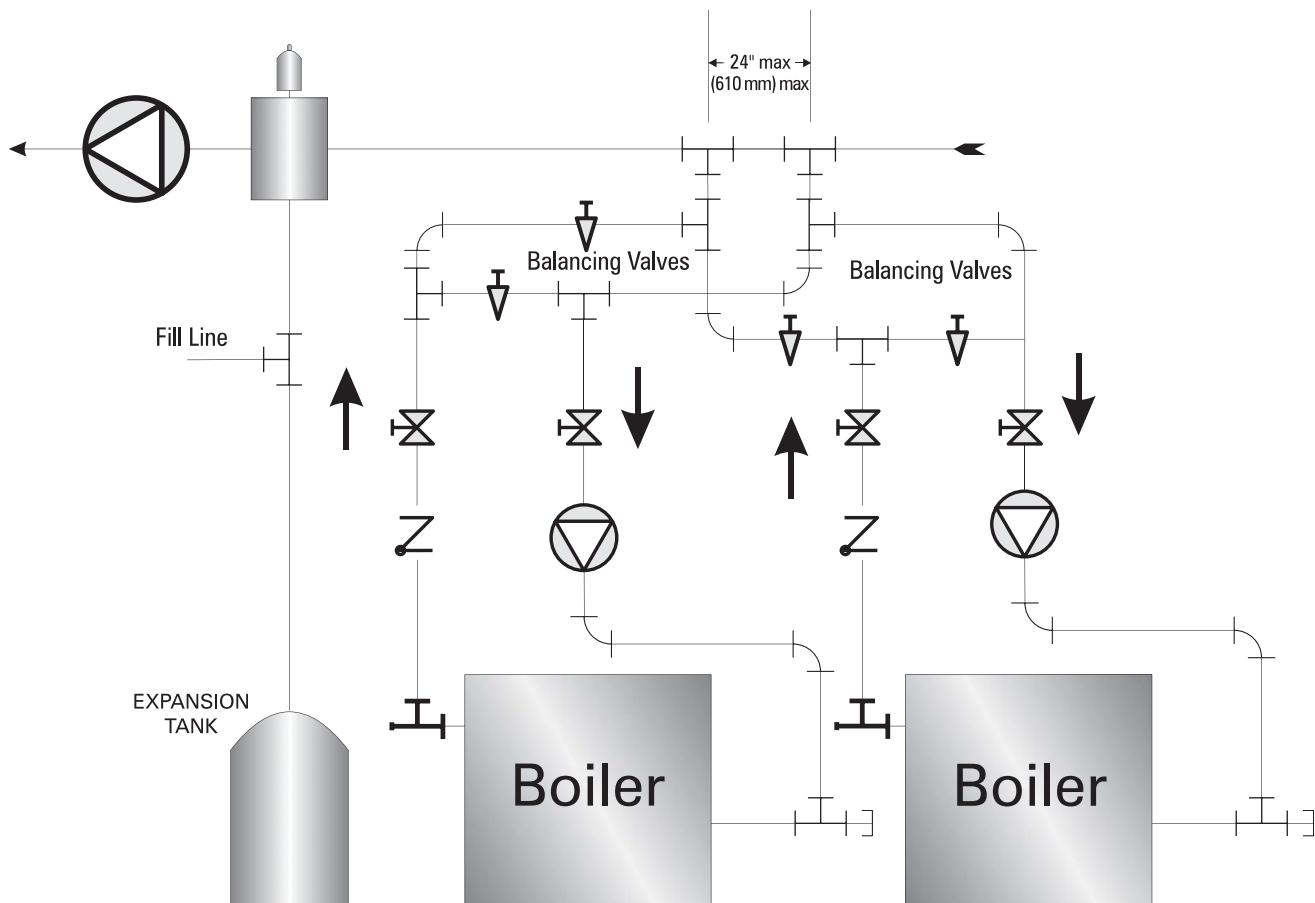
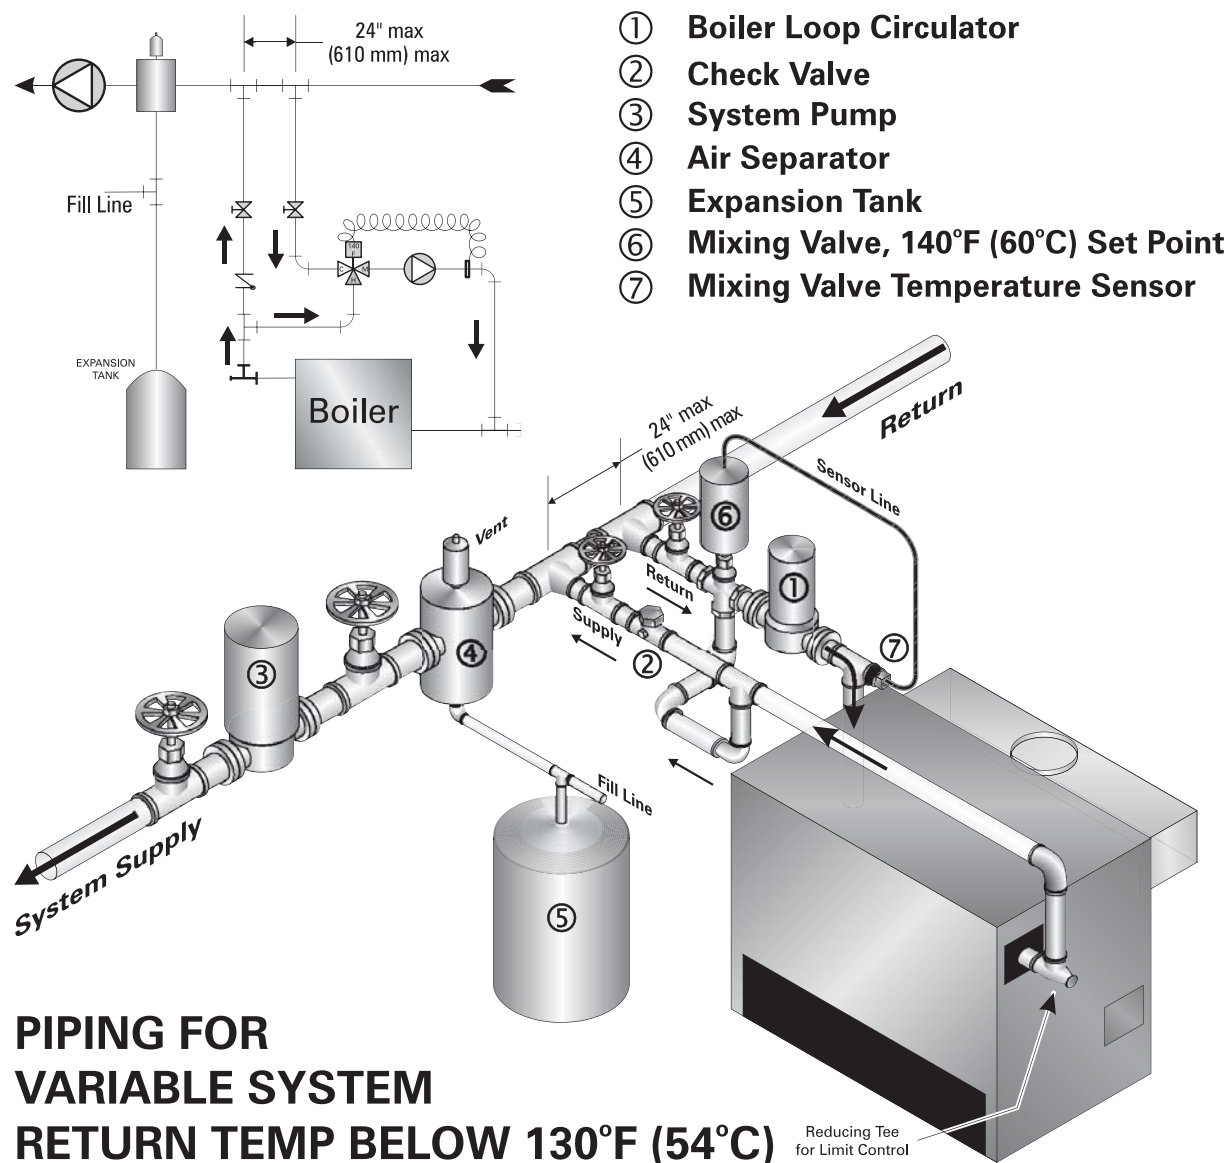
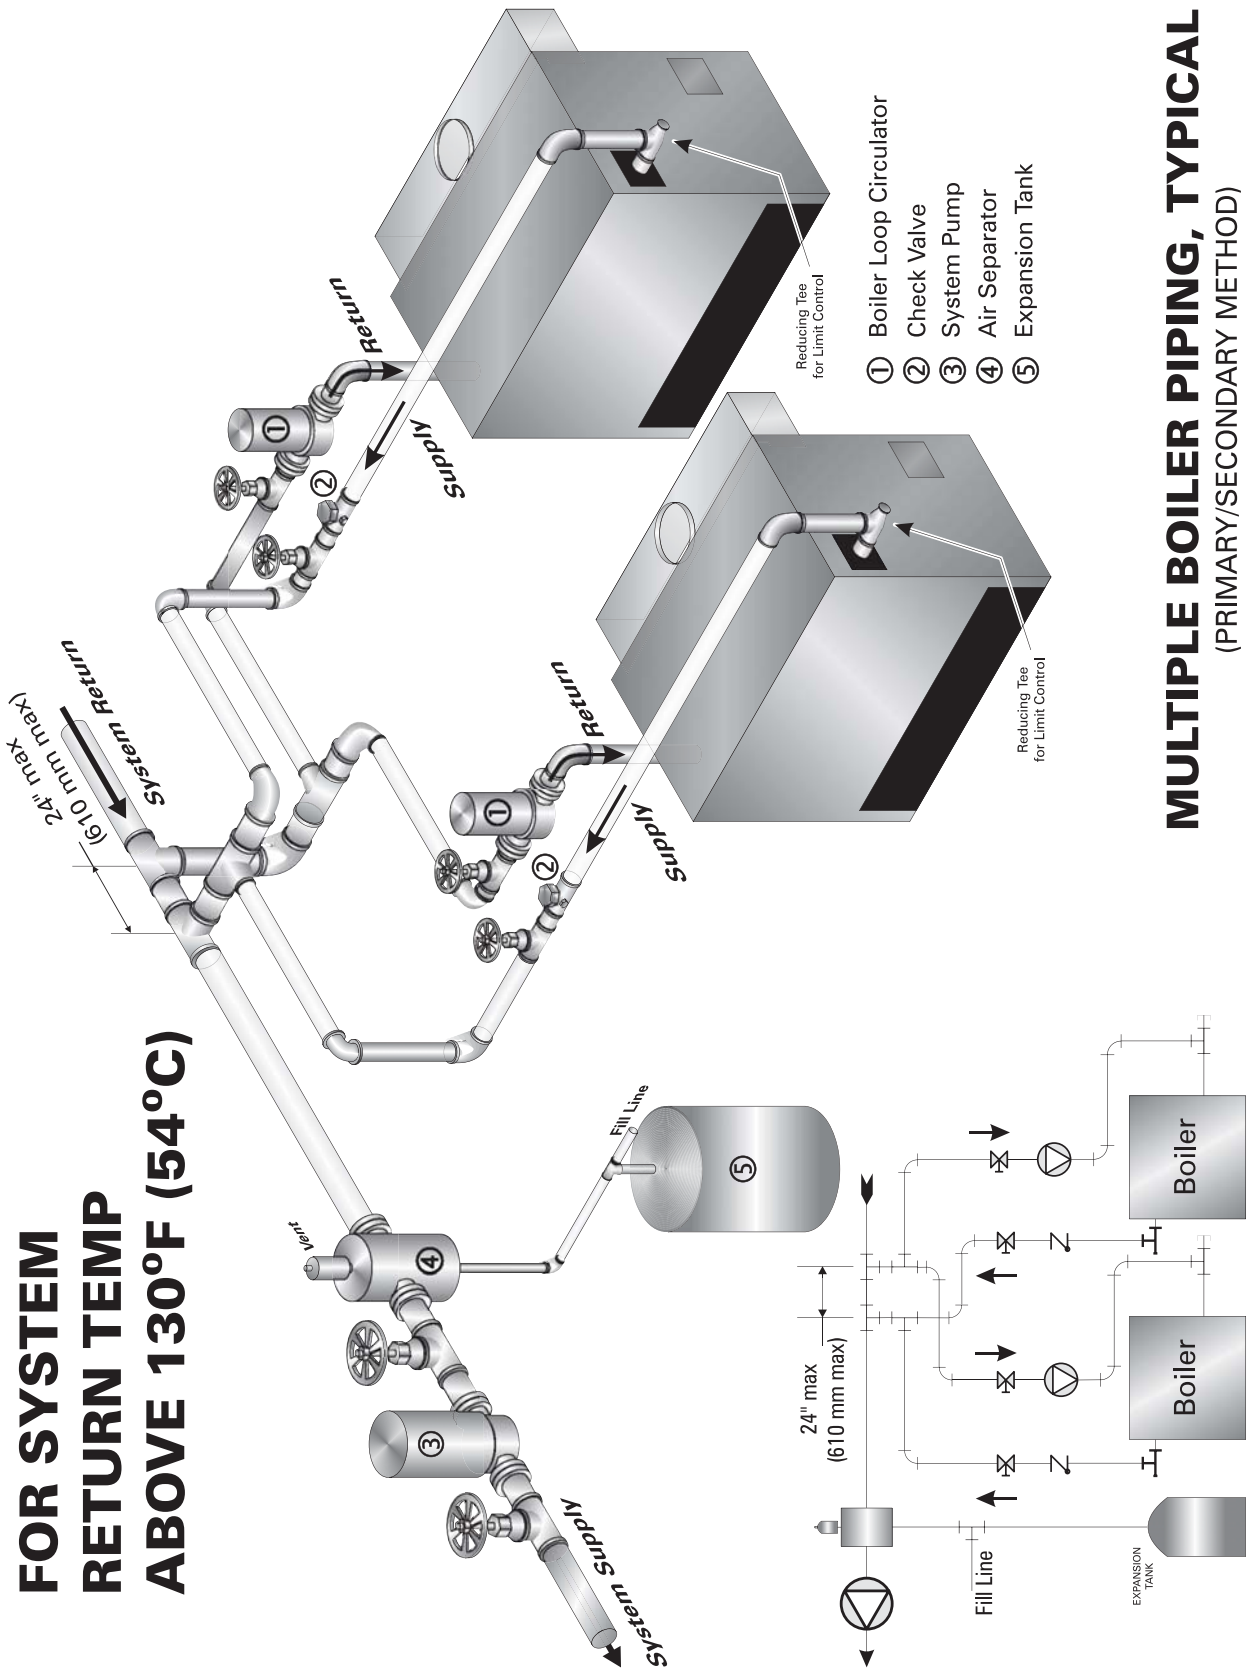
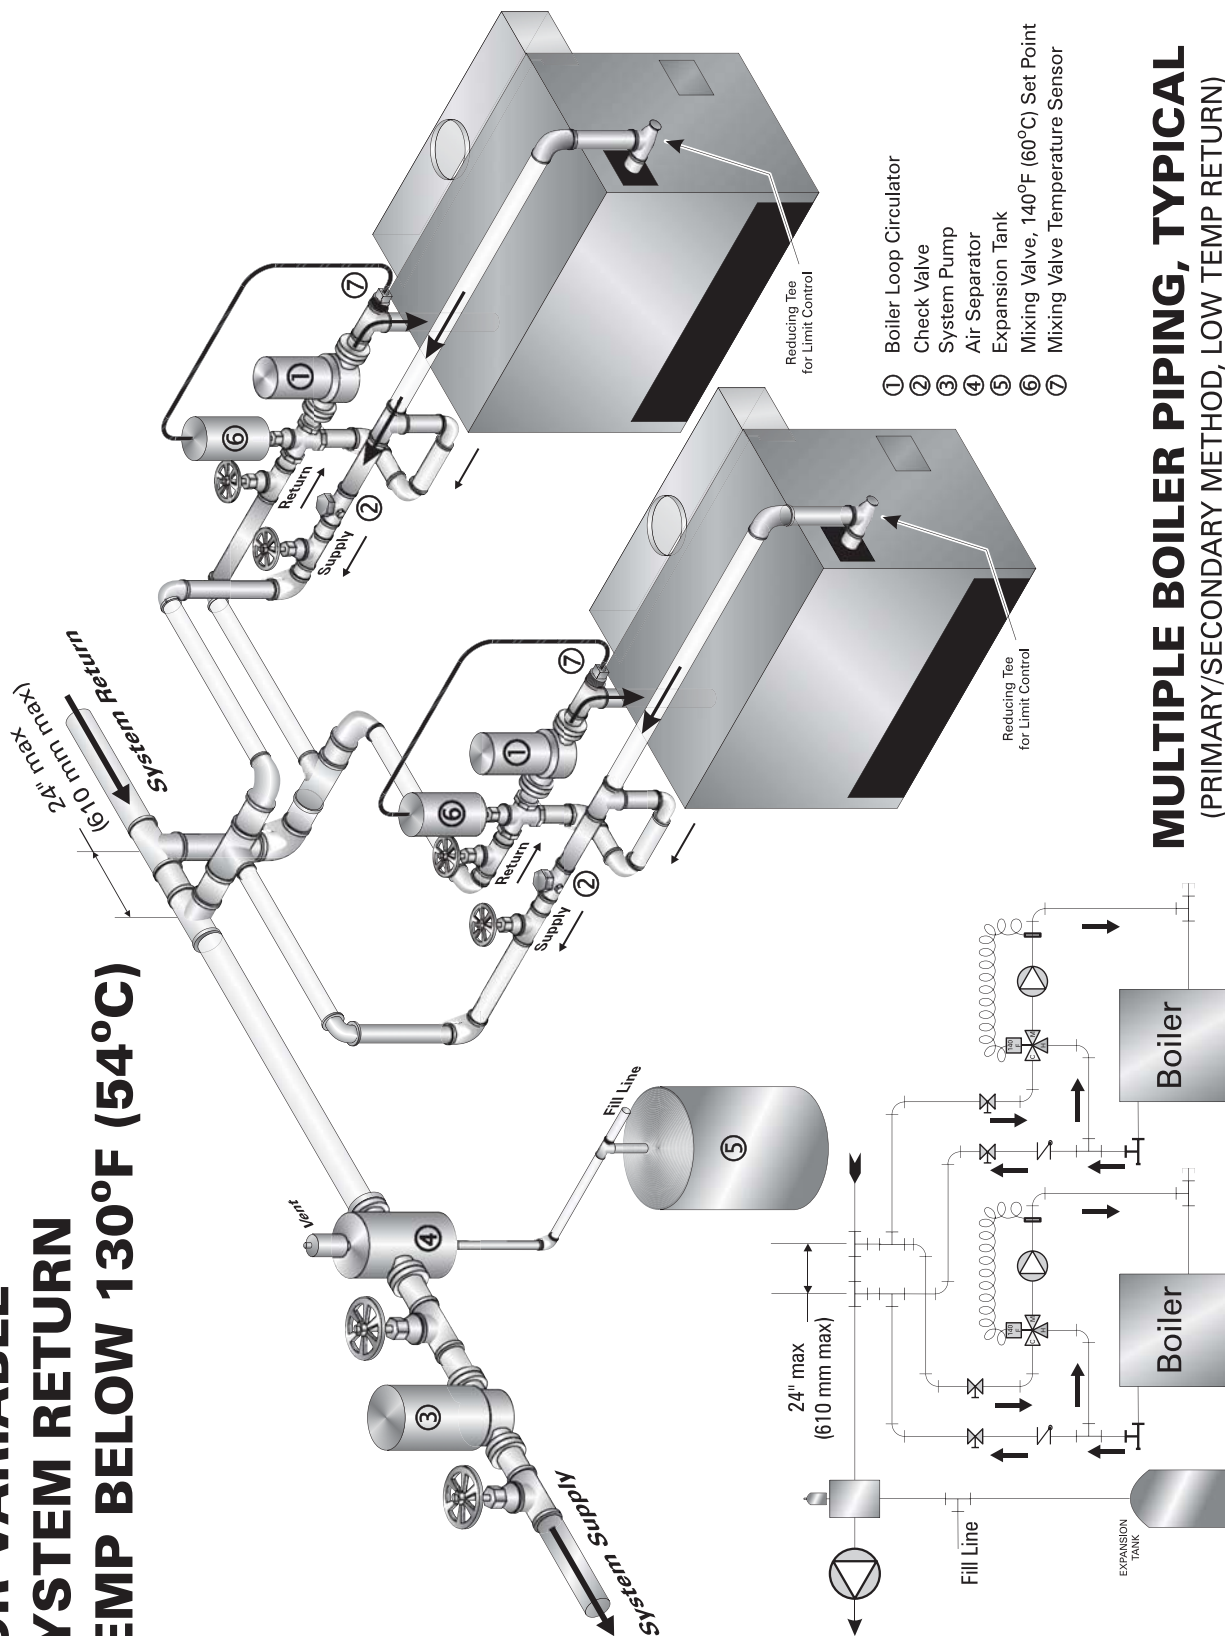

Figure 5.4: Fixed By-Pass Piping, Multiple Boilers
Figure 5.5: Piping for Variable Low Temperature, Single Boiler
Figure 5.7: Multiple Boiler Piping, System Return Temperature Above 54°C (130°F)
Figure 5.8: Piping for Variable Low Temperature Systems, Multiple Boilers
primary/secondary systems with a large primary circuit temperature drop. See Figure 5.4 for multiple boilers.
excessive cycling. To protect the boiler and provide proper operation, install a temperature control valve and boiler circuit pump piped off of the system as a secondary loop. See Figure 5.5 for single boilers and Figure 5.8 for multiple boilers.
1. For flow rates higher than given in Table 5.1, provide bypass piping around the boiler to limit the boiler flow to that given in the table or pipe the boiler in a secondary loop with its own pump as shown in Figure 5.7.
1. Multiple boilers should be piped in a secondary loop. Each boiler should be provided with its own pump and piped off of the secondary loop header. See Figure 5.7 for systems with return temperature above 130°F (54°C). For low temperature systems, see Figure 5.4 (constant low temperature systems) or Figure 5.8 (variable low temperature systems).